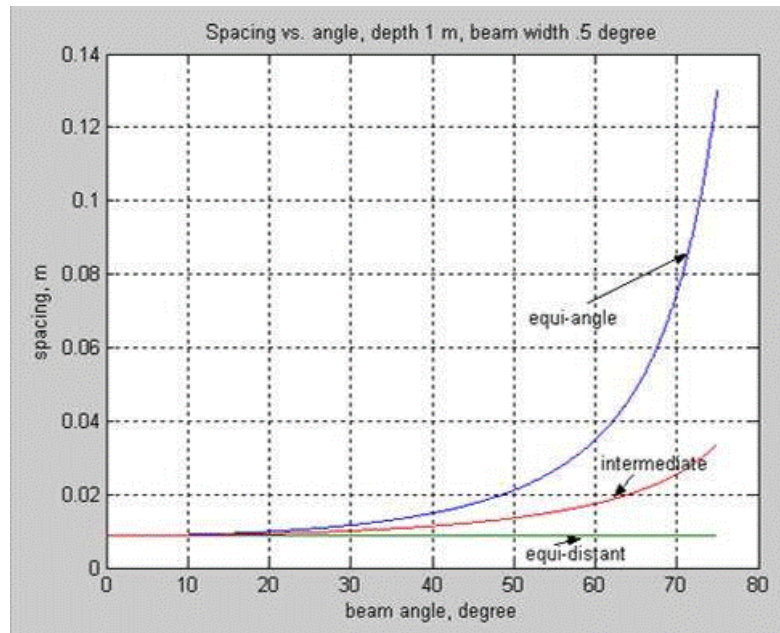

Figure 30: Beam Spacing vs. Beam Angle
*Figure 30* shows that the horizontal spacing of the Intermediate mode increases with beam angle, unlike Equi-distant mode where the spacing stays constant. However, the Intermediate mode increases the spacing much slower than the Equi-angle mode so the outer beam density is still quite good.